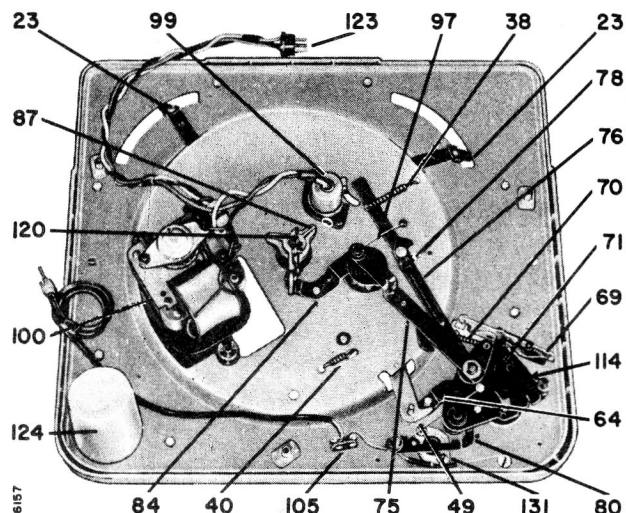

Figure 6. RC654 Record Changer, Bottom View, Changer Out of Cycle.
The set-down adjustment may be made while the changer is in its compartment or cabinet. Adjustment of the set-down point is made by adjusting the set-down adjusting screw (6). See figure 6. The tone arm will automatically set-down properly on 10-inch or 12-inch records if the set-down adjustment is made properly on a 7-inch record. The set-down adjusting screw is accessible through the hole in the left side of the tone arm. Turning this screw out (counterclockwise) moves the set-down point of the tone arm closer to the centerpost, and turning this screw in (clockwise) moves it away from the centerpost.